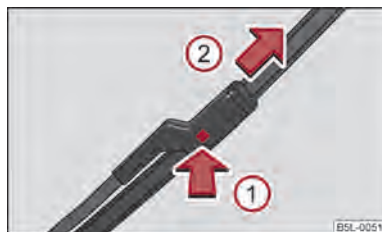

Fig. 38 Wiper blade for the windscreen wiper
- Press the locking button ① ⇒ fig. 38, in order to unlock the wiper blade and pull off in the direction of the arrow ②.